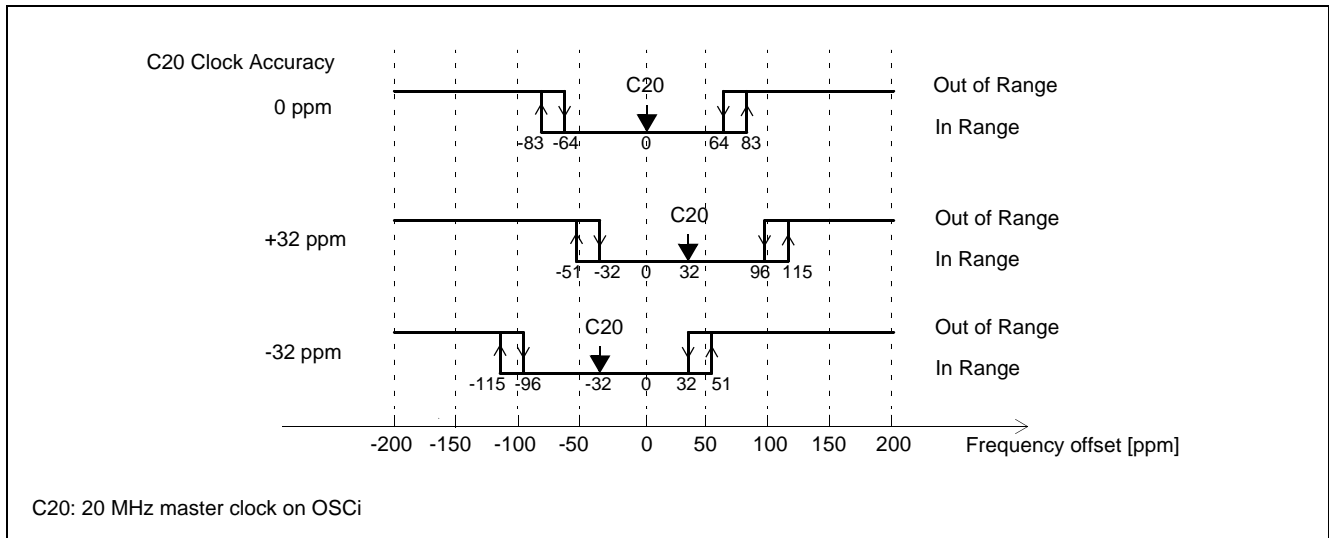
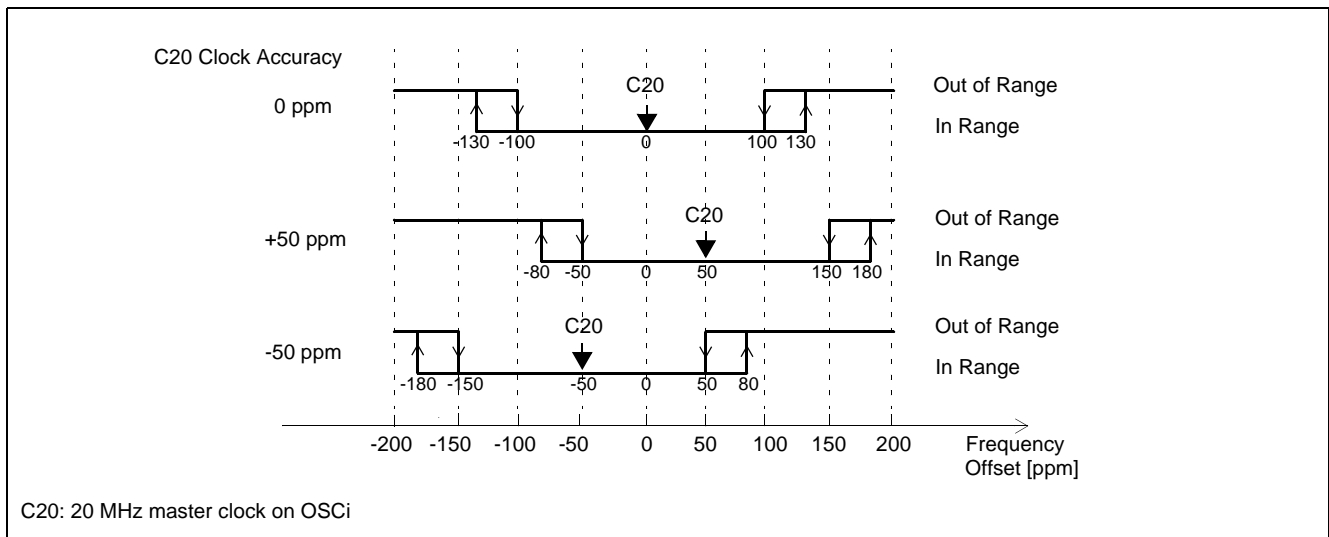

Figure 5 - DS1 Mode Out-of-Range Limits (OOR_SEL=0)
Figure 6 - E1 Mode Out-of-Range Limits (OOR_SEL=1)
- **Precise Frequency Monitor:** This circuit determines whether the frequency of the reference clock is within the applicable out-of-range limits selected by the OOR_SEL pin, see Figure 5, Figure 6 and Table 1. It will take the precise frequency monitor up to 10 s to qualify or disqualify the input reference.